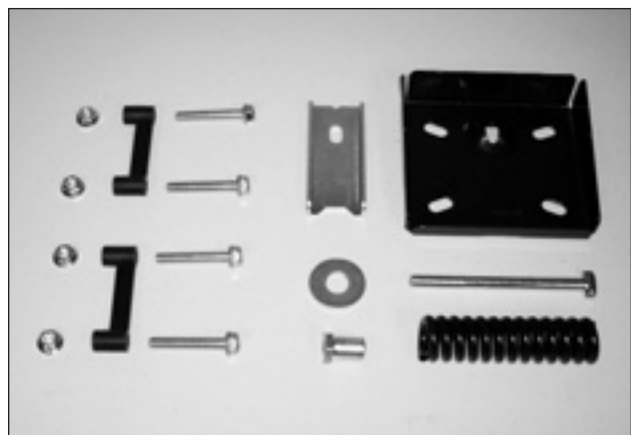

Fig. 23
STEP FOUR: (Requires hardware from B-Ball box #1 - See Fig. 23) Pass 3/8" x 5" T bolt through back side of Slam Jam bracket. "T" part of bolt will nestle in indentation of bracket. Align the 4 holes in this assemble with the 4 matching holes in backboard. Pass four (4) 5/16" x 2" bolts through from front. After bolts pass through backboard but before cross piece, insert a plastic spacer on each side. After cross piece, attach four (4) 5/16" hex flange nuts. (See Fig. 24) Hand tighten only.